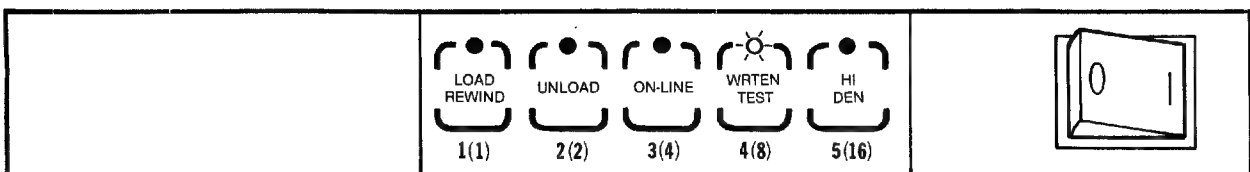

Figure 3-1. Front Panel Controls and Indicators (Diagnostic Mode)
3-3. The failure display is a binary number which results from the "ON" (1) and "OFF" (0) states of the LED's with the least significant bit being the LOAD indicator on the left and the most significant bit being the HI DEN indicator on the right. See Figure 3-1. For the first six tests, the display will be the number of the test that failed and the drive will be inhibited, preventing any further interaction. Refer to Table 3-1 for PUST failure codes 1 through 6. If after power is applied to the unit, all LED's remain lighted continuously for longer than 1 second, and the LED display does not match the level 1 displays in Table 3-1, a failure of the Z8002 is indicated and no further failure information is available.
3-11. Referring to Figure 3-1, which illustrates the controls of the CTU, the switch sequence for activating each service aid is as follows:
3-14. During some service aids, the front panel indicators provide output data relative to the service aid being performed. This data is displayed as a binary number with the LOAD indicator as the least significant bit (LSB) and the HI DEN indicator as the most significant bit (MSB). See Figure 3-1. Each Service Aid description includes information about output data, as appropriate.